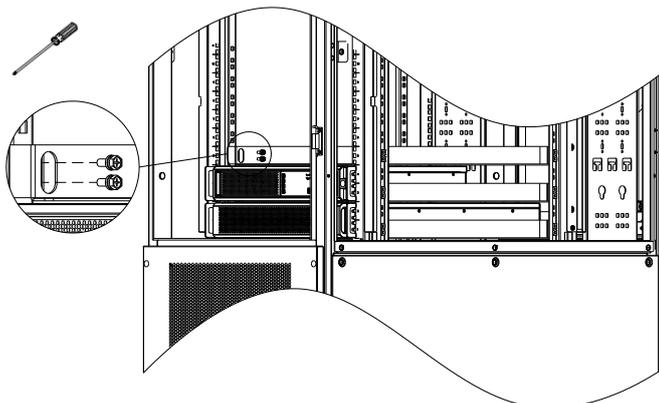

Figure 2-19 Install the rails
4) Install the rails, fix with M6×16 screws (8pcs), as shown in Figure 2-19.